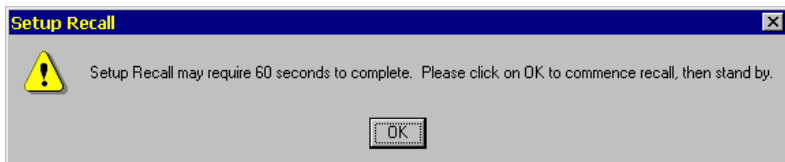

Figure 3-4 Fast Start Recall Setup Alert Message
11. The following message will now appear to alert you that 60 seconds may be required to open your setup file (Figure 3-4):